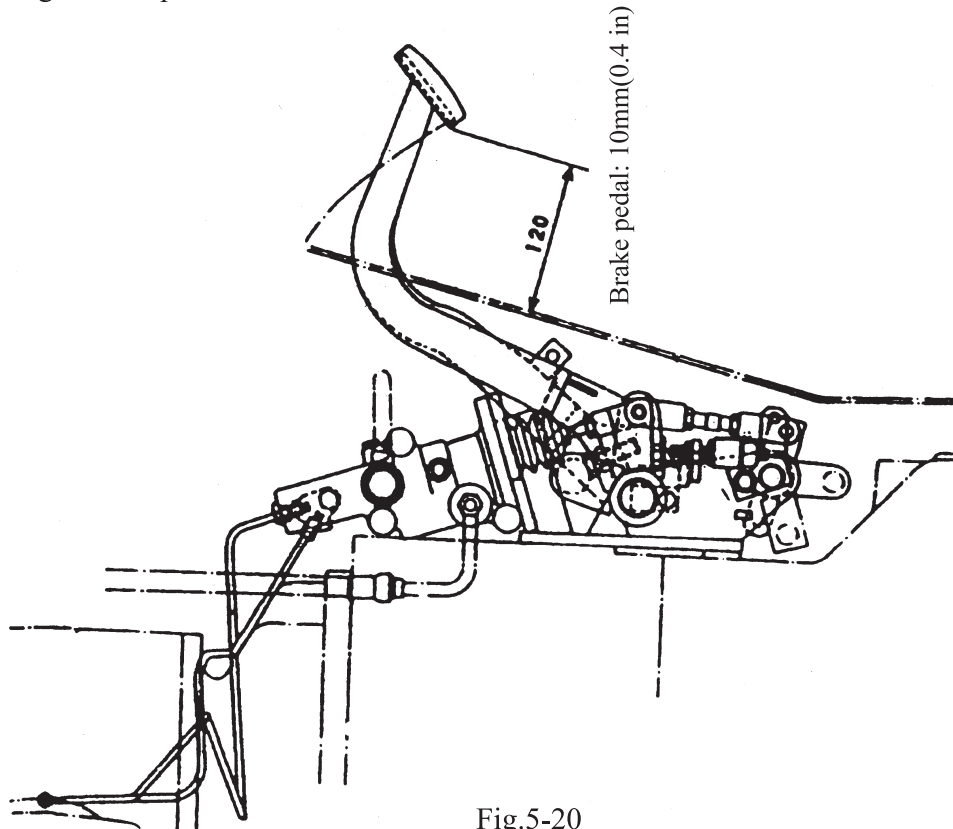

Fig.5-20
- (1) Shorten the master cylinder push rod properly.
- (2) Adjust the pedal height with the stopper bolt as shown in Fig.5-20.
- (3) Keeping the pedal pressed 30mm, extend the push rod so that its end contact the master cylinder piston.
- (4) Tighten the push rod lock nut.